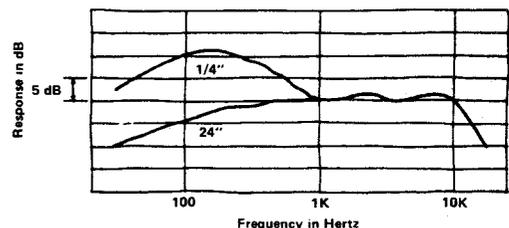

FIGURE 12—"Single-D" Proximity Effect
**Two vastly Different Types of Cardioid Microphones.** A "Single-D" cardioid gives big bass. The simple cardioid microphone described previously (the one with a single port located in the case) has a frequency response which varies strongly with working distance! As shown in Figure 12, at one-quarter inch, the bass response is boosted fifteen dB over the response at 24 inches and beyond! In engineering terms, this type of cardioid is called a "Single-D", named for the single distance between the rear sound entrance and the diaphragm.